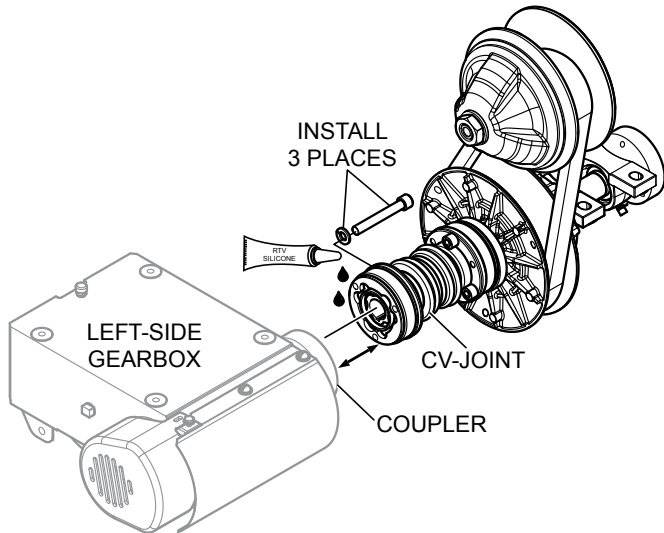

Figure 23. CV-Joint Installation
1. Apply a thin coat of RVT silicone to mating surfaces of the CV-joint (Figure 23) and left-side gearbox coupler.
2. Using a 1/4" allen wrench install the 3 bolts and lock washers that secure the CV-joint (Figure 23) to the left-side gearbox.